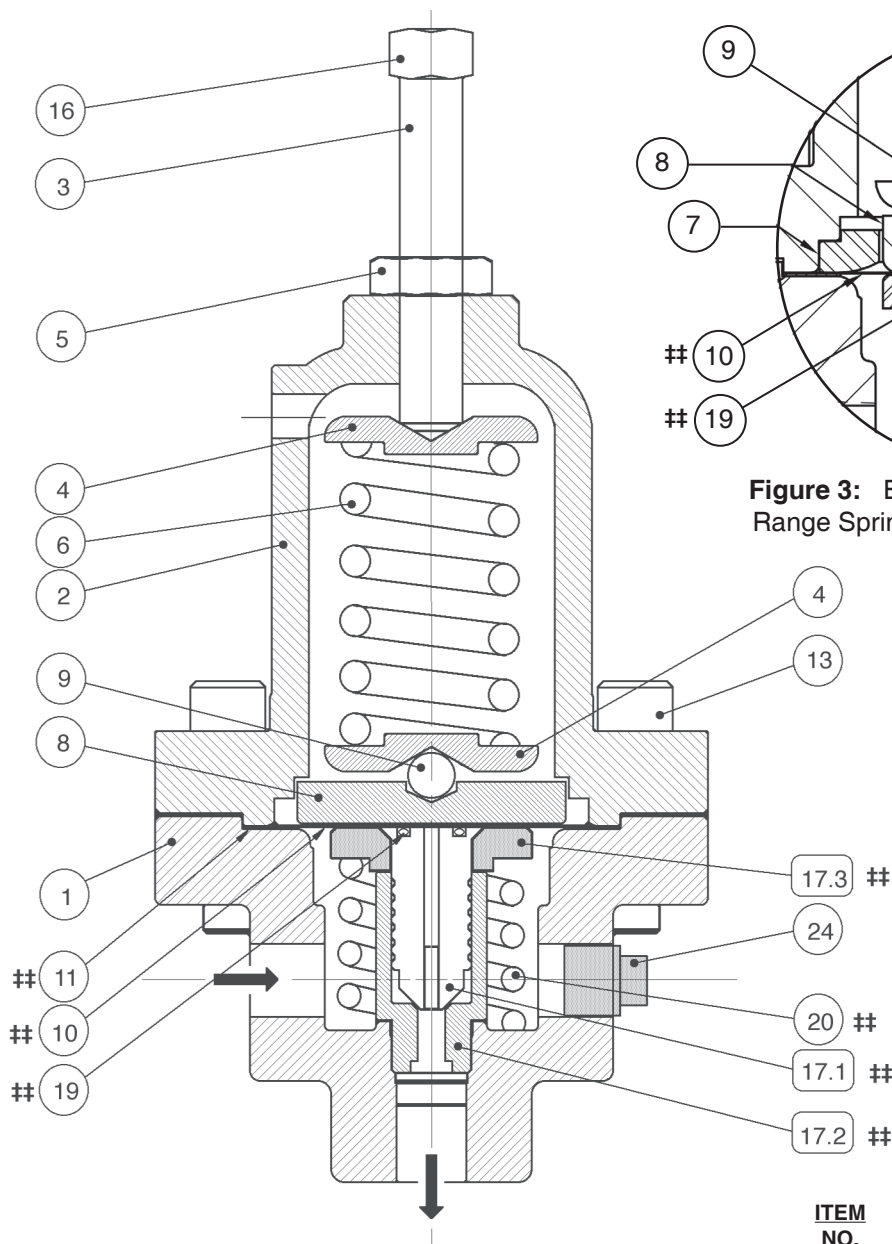

Figure 2: Basic Model 6987 - Metal Seat
3. Refer to Figure 2 for basic regulator parts.